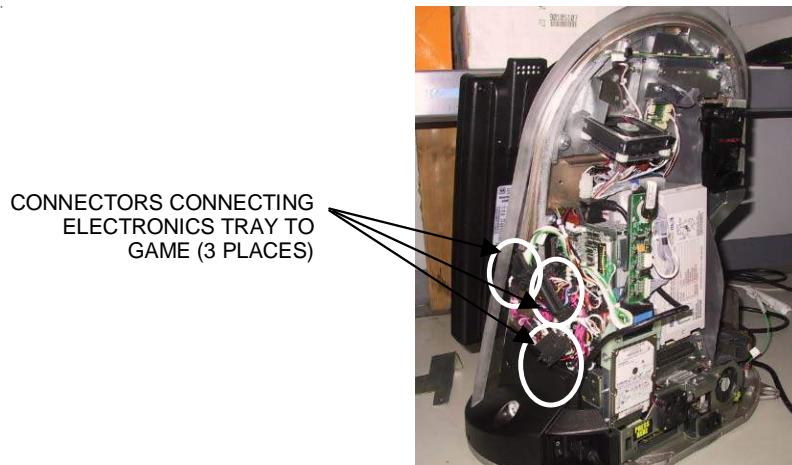

FIGURE 5 - REAR VIEW OF GAME
7. If applicable, disconnect the three black connectors (10-, 11- and 12-pin) connecting the electronics tray to the game in order to slide the tray out further (see Figure 5). If your game does not have these connectors, the harness is long enough to remove the tray.